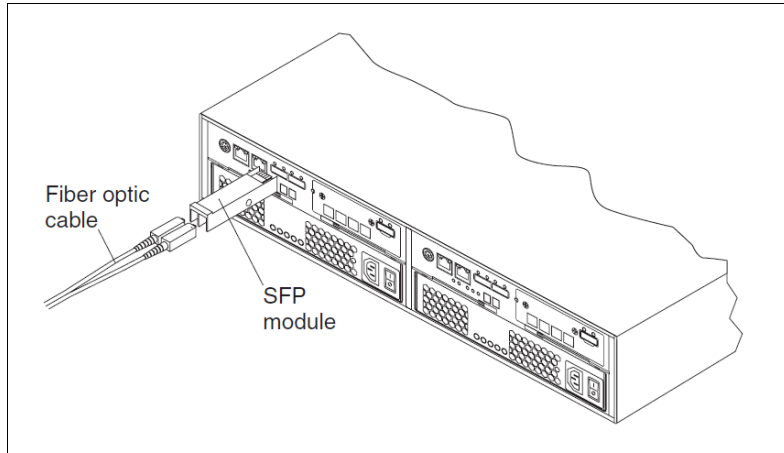

Figure 4-12 Installing an SFP module into the host port
4. Insert the SFP module into the host port until it clicks into place as shown in Figure 4-12 on page 95.